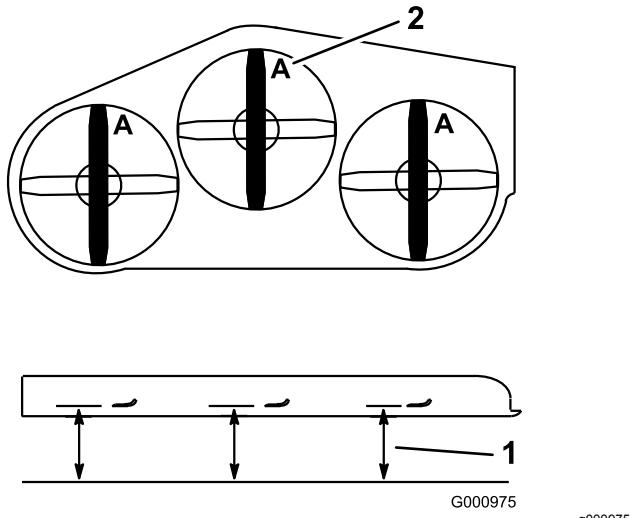

Figure 97
4. Measure from a level surface to the cutting edge, position **A**, of the blades (Figure 97).